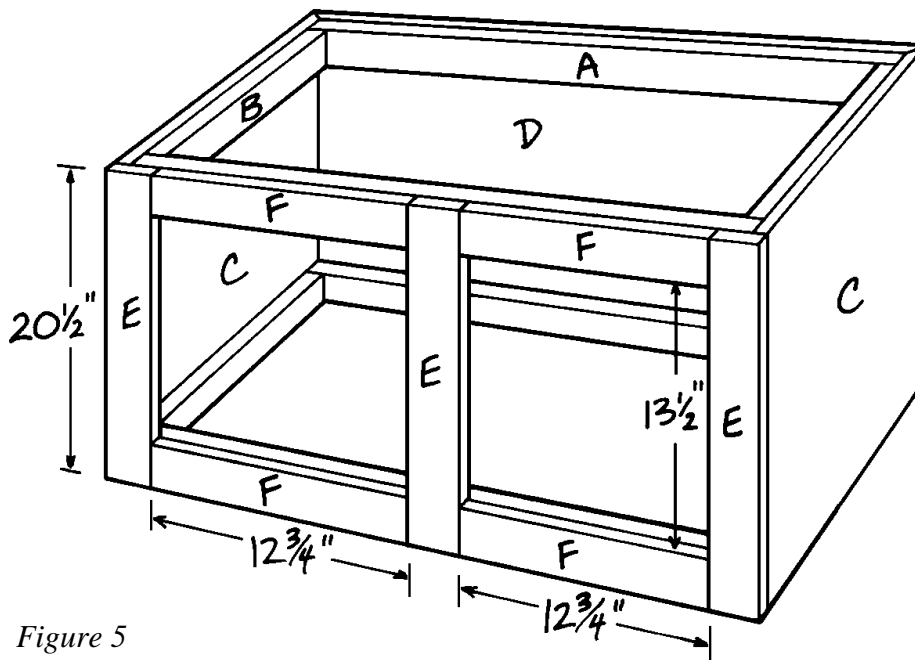

Figure 5
1. Cut three 20-1/2"-long vertical trim pieces (E) from 1 x 4 pine.
2. Glue one vertical trim piece (E) to the left side of the cabinet, as shown in *Figure 5*, and insert 1-1/4" screws, spaced about 6" apart, through the vertical trim piece (E) and into the long inner supports (A) and the edge of the side (C).
3. Repeat Step 2 to attach a second vertical trim piece (E) to the right side of the cabinet.
4. Attach a third vertical trim piece (E) in the center of the cabinet, as shown in *Figure 5*, inserting two 1-1/4" screws through the top and bottom of the vertical trim piece (E) into the long inner supports (A) at each joint. Note that the spacing between the vertical trim pieces (E) should be exactly 12-3/4".
5. Cut four 12-3/4"-long horizontal trim pieces (F) from 1 x 4 pine.
6. Using *Figure 5* as a guide, glue the four horizontal trim pieces (F) flush with the top and bottom of the cabinet, between the vertical trim pieces (E). Secure with three 1-1/4" screws driven through each of the four horizontal trim pieces (F). Note that the opening between the top and bottom horizontal trim pieces (F) should be exactly 12-3/4" x 13-1/2".